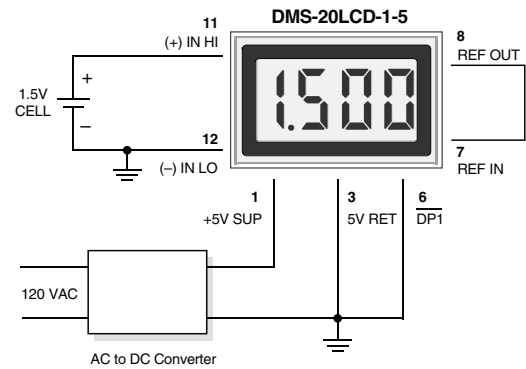

Figure 5. Floating Input Measurements (5V-Powered Models)
4. Floating Signal Source Measurements: Floating signals can be measured using the circuits shown in Figures 5 and 6. Figure 5 uses a 5V-powered meter. Figure 6 uses a 9V-powered meter. Connecting pin 10 (ANALOG COMMON) to (-) INPUT LO (pin 12) provides the reference point for the meter's input.